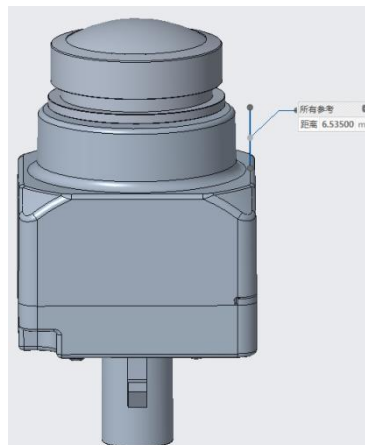

Figure 11
- AA lenses have different flange rear focal heights for different AA lenses, and the protrusion height of the lens holder is different. Please refer to 3D data for details, as shown in Figure 11. The height (6.53mm) is uncertain and needs to be determined based on the position of the AA lens flange.